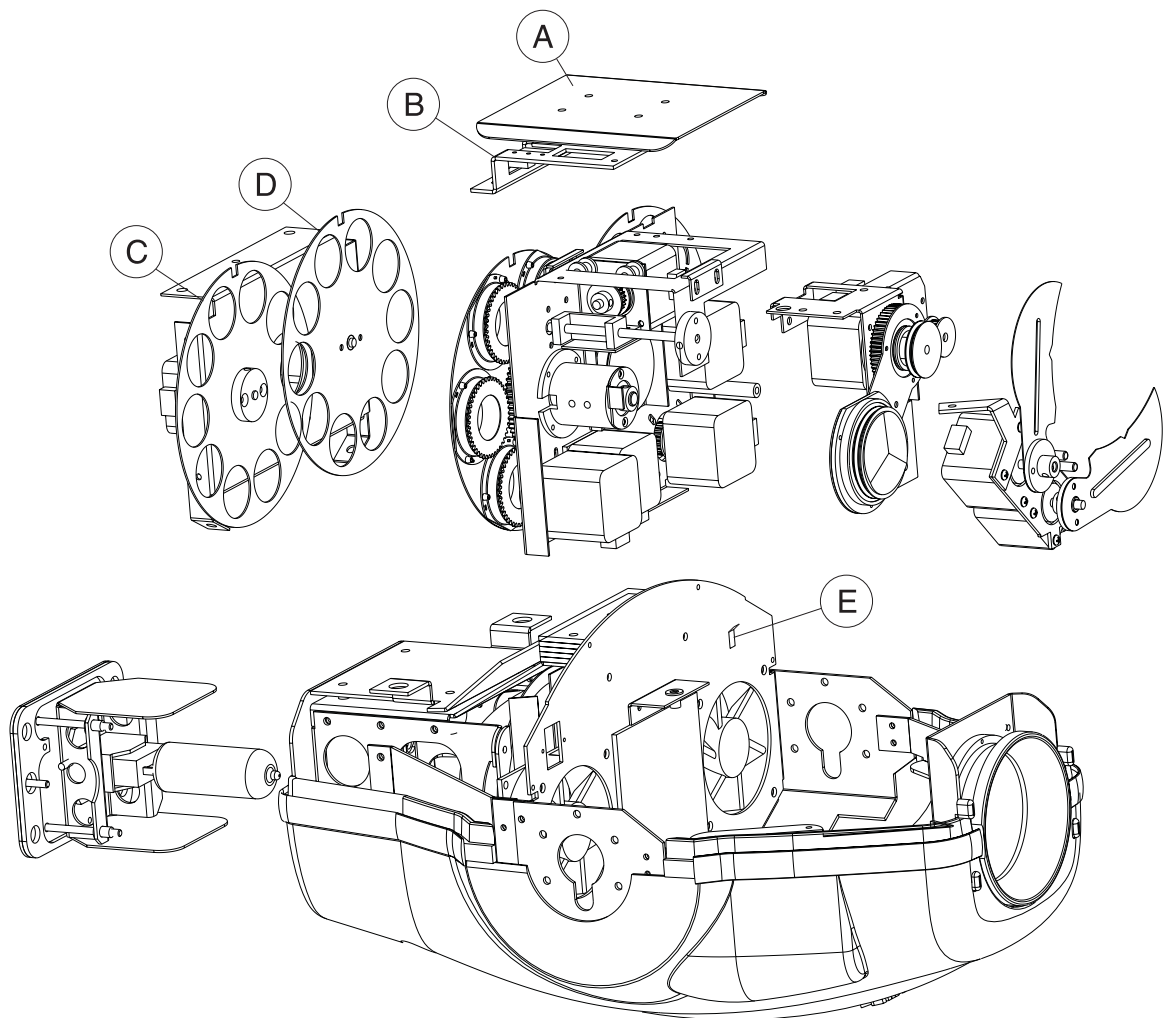

Figure 2-1
2. Refer to Figure 2-1. First install color wheel 2 (C) as shown. Color wheel 2 has 4 CTC filters and its adaptor is on the side as the color filters. Position the face of the wheel 2 mm from the face of the motor and tighten a set screw slightly to fix the position along the shaft.
3. Install color wheel 1 (D) on the other motor as shown. The adaptor on color wheel 1 is on the opposite side as the color filters. Position the face of the adaptor 2 mm from the face of the motor and tighten a set screw slightly to fix the position along the shaft.
1. Refer to Figure 2-1. Working from the top of the head, remove the top air flow plate (A) and Hall sensor module (B). There is no need to cut the tie holding the wires to the Hall sensor module.
3. See Figure 2-1. Install a dimmer blade on the right motor (as seen from the rear) with the adaptor facing the front.